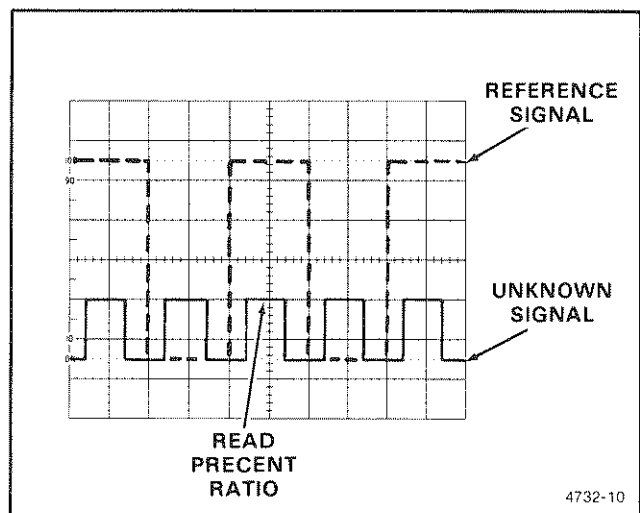

Figure 2-15. Voltage ratios.
5. Horizontally position the waveform so that its top most features cross the center vertical graticule line (see Figure 2-15).